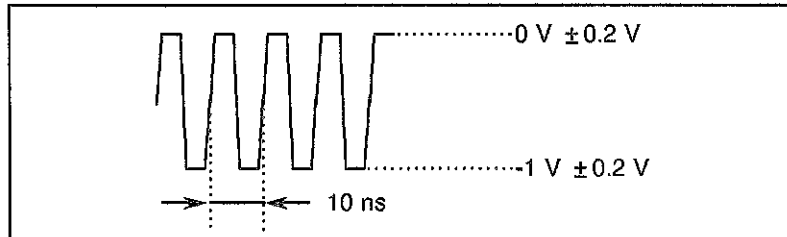

Figure 8-3 1/2 CLOCK Output Waveform (f = 200 MHz)
- (6) Normal when the waveform is a rectangular wave as shown in Figure 8-3.